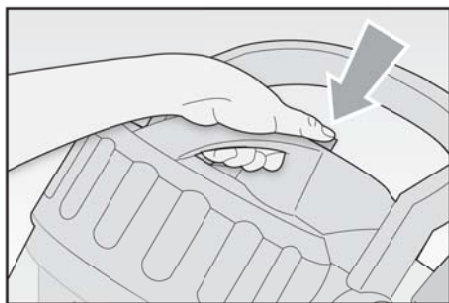

Fig. 6
- Press the release button and at the same time, remove the dust container (B) using the relevant handle (C) (FIG. 6).